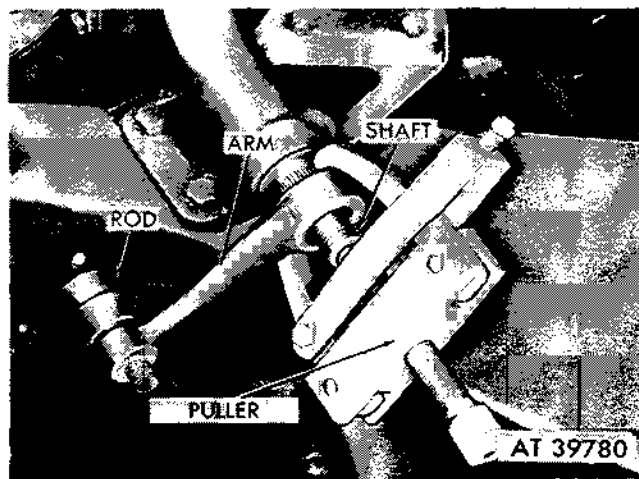

Figure 2-351. Remove Pitman arm using puller.
(3) Use suitable puller and remove Pitman arm from sector shaft and from idler arm rod (fig. 2-351).
b. *Installation.* Refer to removal operations (3) back to (1). Before installing Pitman arm, rotate steering wheel to maximum turn. Reverse rotation approximately $15/6$ turns until one spoke of steering wheel is at the bottom and is in line with centerline of steering column. Point wheels in straight ahead position. Point Pitman arm straight ahead, align fluted serrations on arm and sector shaft and install Pitman arm. Tighten steering Pitman arm to sector shaft nut to 100-110 lb.-ft. torque. Tighten nut on ball socket stud to 35-45 lb.-ft. and install new cotter pin.